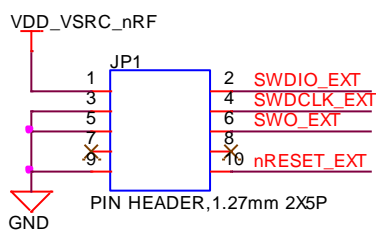

Figure 7: BL654 development board schematic
**Note:** Reference on the BL654 development board schematic (Figure 7) shows the DVK development schematic wiring only for the JTAG connector and the BL654 module JTAG pins.
JTAG is require because Nordic SDK applications can only be loaded using the JTAG (*smartBASIC* firmware can be loaded using JTAG as well as over the UART). We recommend that you use JTAG (2-wire interface) to handle future BL654 module firmware upgrades. You **must** wire out the JTAG (2-wire interface) on your host design (see Figure 7, where the following four lines should be wired out – SWDIO, SWDCLK, GND and VCC). *smartBASIC* firmware upgrades can still be performed over the BL654 UART interface, but this is slower than using the BL654 JTAG (2-wire interface) – (60 seconds using UART vs. 10 seconds when using JTAG).
Laird recommends you use JTAG (2-wire interface) to handle future BL654 module firmware upgrades. You MUST wire out the JTAG (2-wire interface) on your host design (see Figure 7, where four lines should be wired out, namely SWDIO, SWDCLK, GND and VCC). Firmware upgrades can still be performed over the BL654 UART interface, but this is slower (60 seconds using UART vs. 10 seconds when using JTAG) than using the BL654 JTAG (2-wire interface). JTAG may be used if you intend to use Flash Cloning during production to load *smartBASIC* scripts.